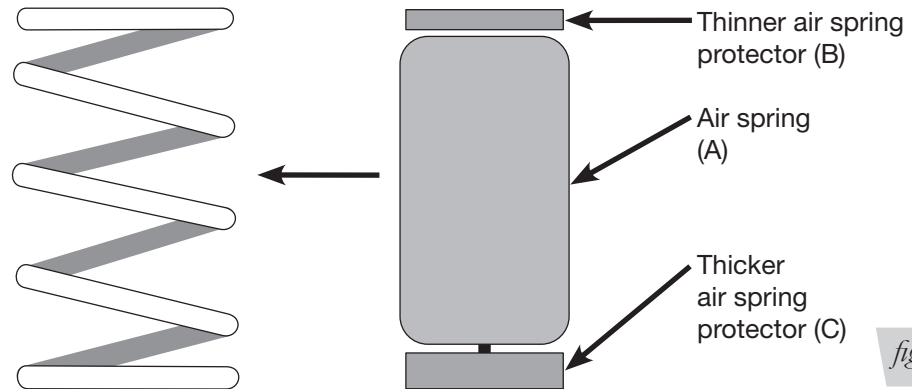

fig. C.4
1. Place the air bag and the top and bottom protectors in the coil spring (Fig. C.4). The top protector is the thinner one.